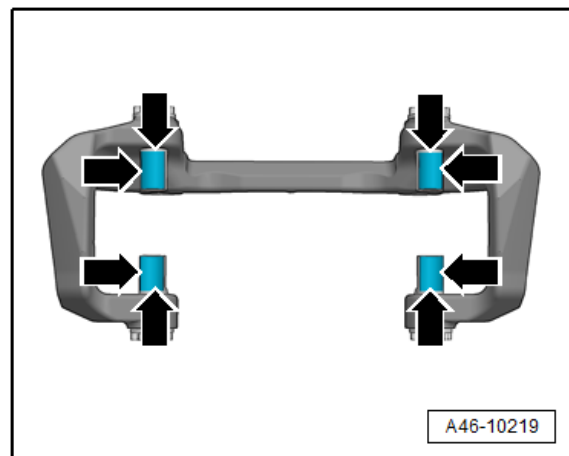

Figure 2. Caliper carrier guide pins with anti-seize (G 052560A2) lubricant applied where the pads make contact.
2. Apply a thin coat of anti-seize (G 052560A2) lubricant to the guide pins of the front caliper carriers prior to installing the brake pads (Figure 2).